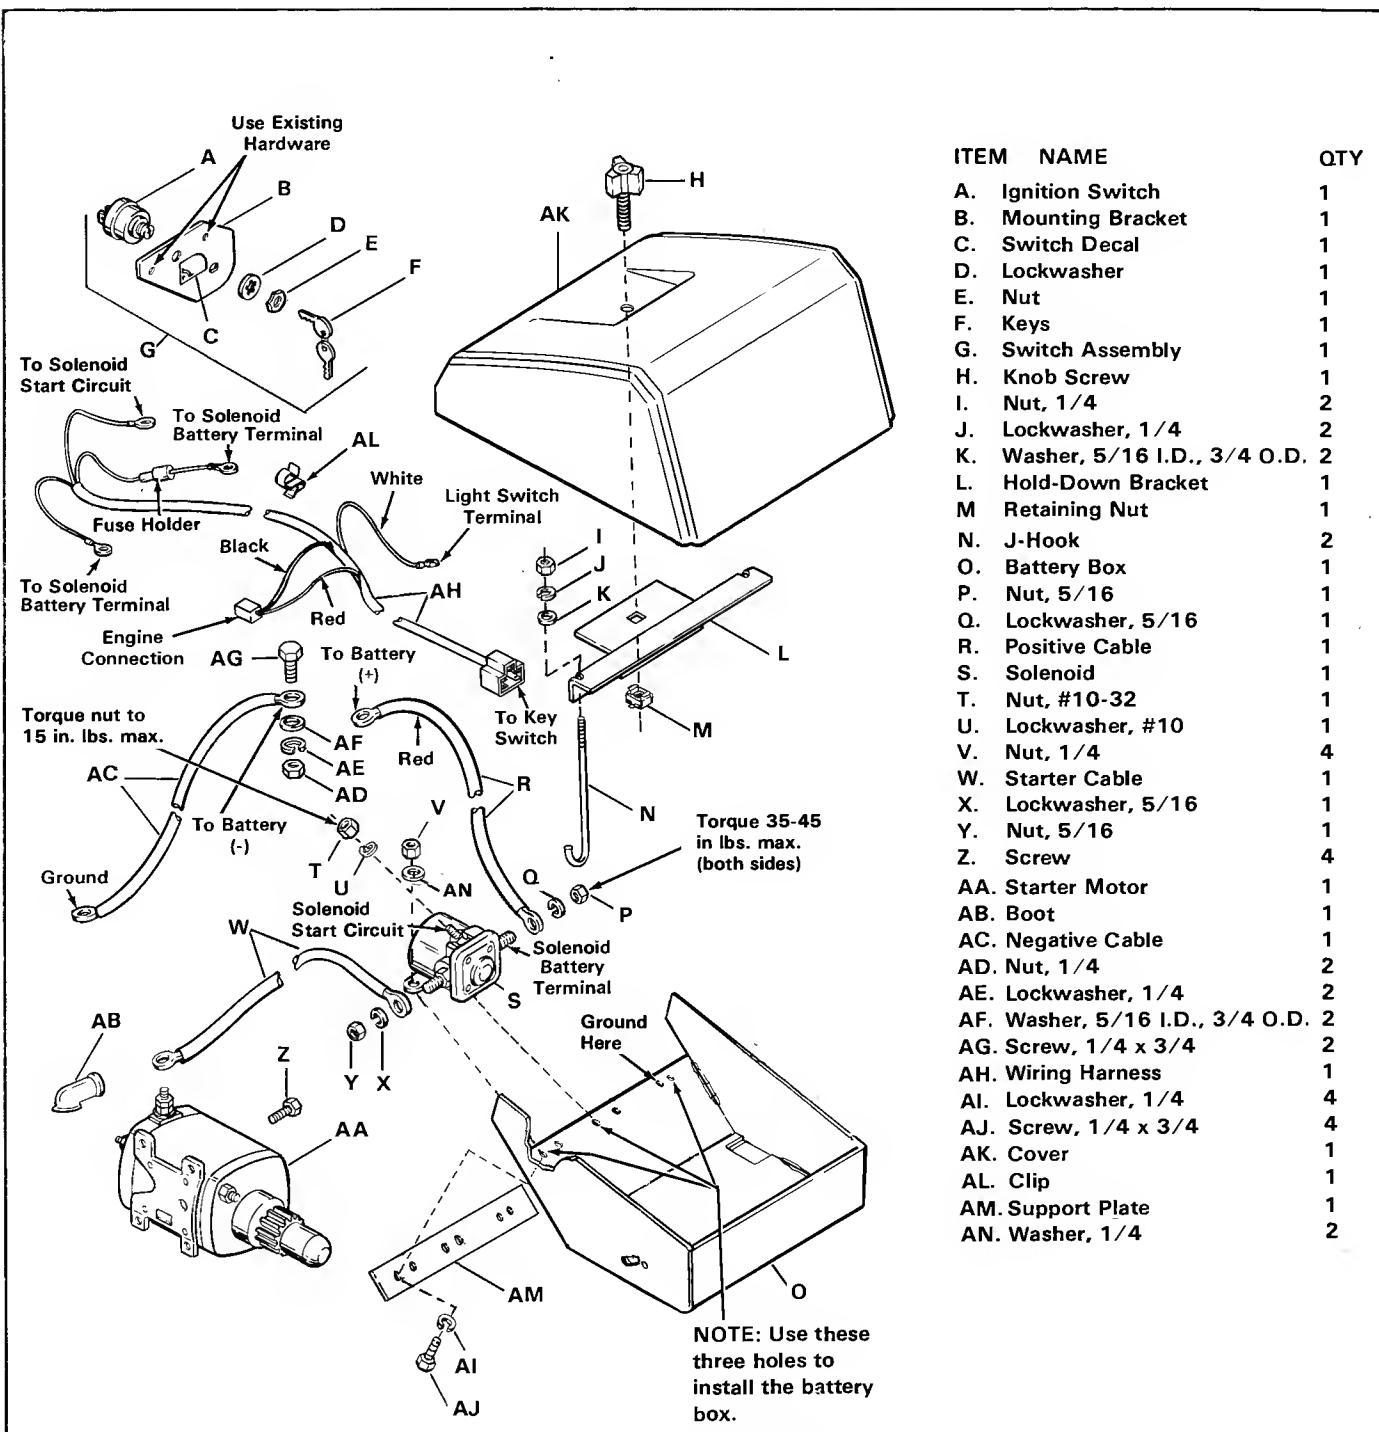
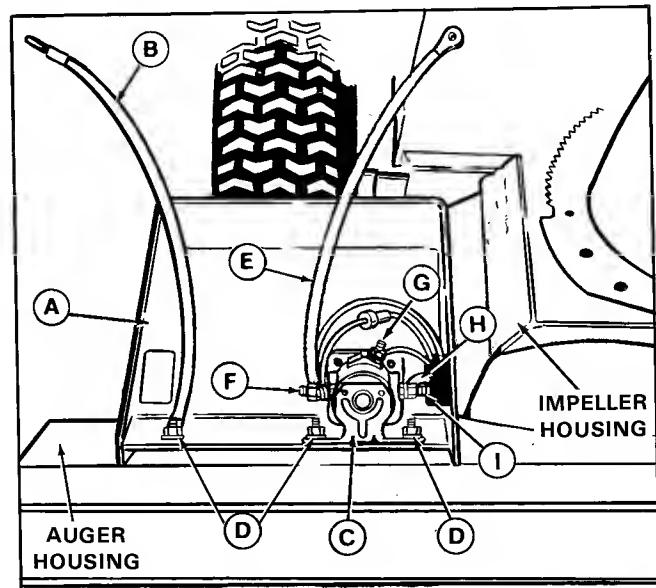
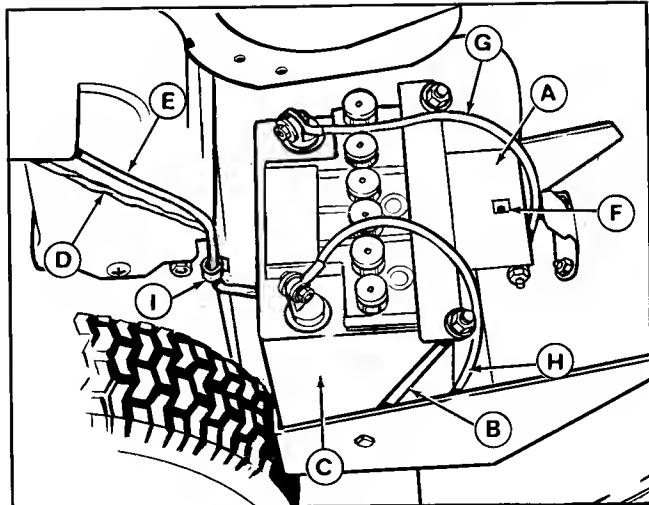

Figure 1. Electric Start Kit
Figure 3. Battery Box
Figure 7. Battery Installed
Take an inventory of the parts in the kit by referring to figure 1. Part numbers for the items can be found in the snowblower parts manual.
6. Three 17/64 inch (6.7 mm) holes must be drilled in the snowblower housing to mount the battery box. See the note in figure 1 to determine which holes in battery box will be used. Position the battery box as shown in figure 3. The front, bottom surface must be flat against the auger housing. The battery box must be level. When the battery box is positioned, mark the three holes (in auger housing) then remove the battery box.
7. Install the battery box (O, figure 1), support plate (AM), negative cable (B) (15" long), and solenoid (S) as follows.
- f. Connect the purple wire to the small terminal (G, figure 3).
- g. Connect the remaining two wires and the positive cable (E) (10-1/4" long) to the solenoid battery terminal (F).
14. Connect the starter motor cable (H, figure 3) (25" long) to the solenoid starter terminal (I). Route the cable down thru hole in battery box.
15. Secure the wiring harness in the clip (I, figure 7) and insert the clip into slot in snowthrower housing.
16. Connect the other end of the cable (E, figure 7) to the starter motor (AA, figure 1). Be sure the boot (AB) is in place over in the terminals.
17. Make sure the retaining nut (F, figure 7) is securely positioned in the hole in the battery clamp.
18. Hook the J-hooks (B, figure 7) into the holes in each side of the battery box. Place the battery in the box with the positive post on the solenoid side.
19. Position the battery clamp (A, figure 7) onto the J-hooks and battery as shown. Install a 1/4" washer, lockwasher and nut on each J-hook to secure the clamp (A).
20. Connect the red positive cable (G) to the battery positive post. Connect the black negative cable (H) to the battery negative post.
22. Position the cover (AK, figure 1) onto the battery box, and thread the knob screw (H) thru cover and into the retaining nut. This completes the installation.